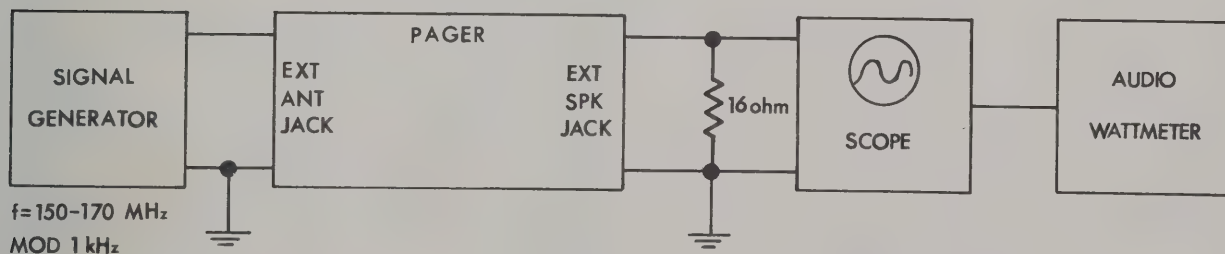

FIGURE 12
- (a) Connect the equipment as shown in Figure 12 and set the Signal Generator frequency to f_c (the operating frequency of the pager). Accurately adjust transformers (CT1, T2, T3, T6 and T9). Decrease the Signal Generator output to an extremely low level (lower than $1 \mu\text{V}$) so that the set noise accompanied by the modulated signal generator tone is audible, thereby obtaining the highest sensitivity. Confirm that the final sensitivity is better than $0.5 \mu\text{V}$ for 20 DB quieting. Remove the Signal Generator output cable from the EXT ANT JACK, and receive the signal with the internal loop antenna. Repeat CT1 for optimum performance.